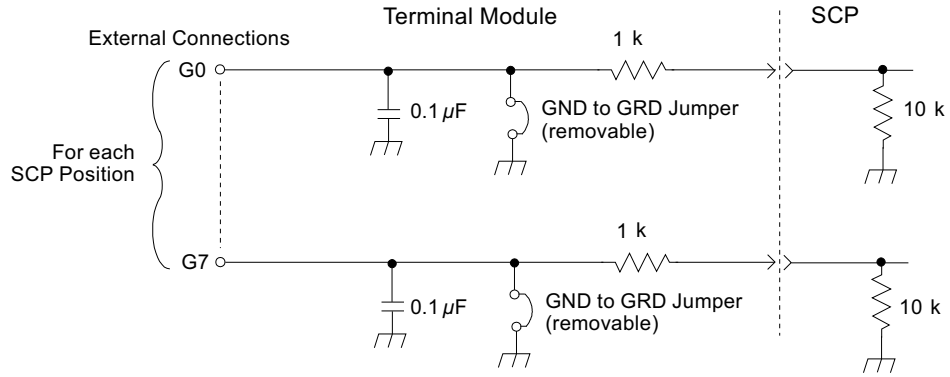

Figure 2-7: GRD/GND Circuitry on Terminal Module
3. Connect the shield of each wiring pair to the corresponding Guard (G) terminal on the Terminal Module (see Figure 2-7 for schematic of Guard-to-Ground circuitry on the Terminal Module).